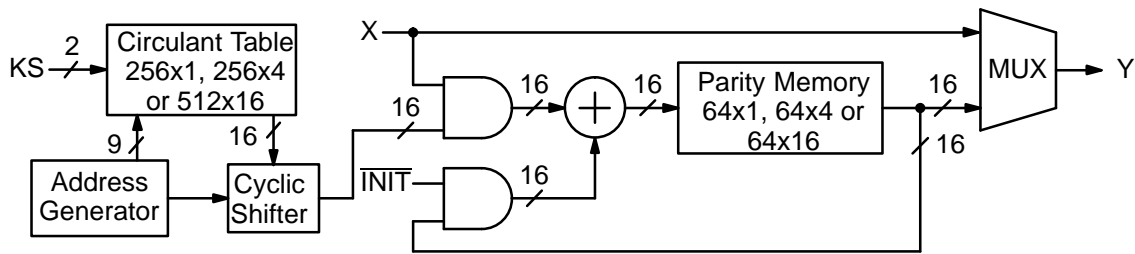

Figure 2: LCE03C Systematic Encoder.
Figure 2 gives a block diagram of the LCE03C encoder. X is the data input and Y is the coded output. Data is clocked during the low to high transition of CLK. The Cyclic Shifter is only used for $K = 1024$.
- v1.00 21 Mar. 2022. First release. Corrected Figure 2. Added performance and complexity for MODE = 1.